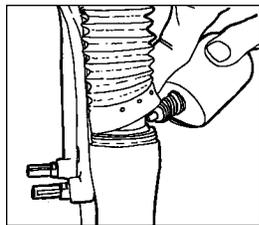

Fig. 3
- Lift fork boots from lower tubes and wipe Resi-wiper seal and upper tube areas clean. Apply two to three drops of Teflon-fortified oil to the upper tubes at seal (Fig. 3).